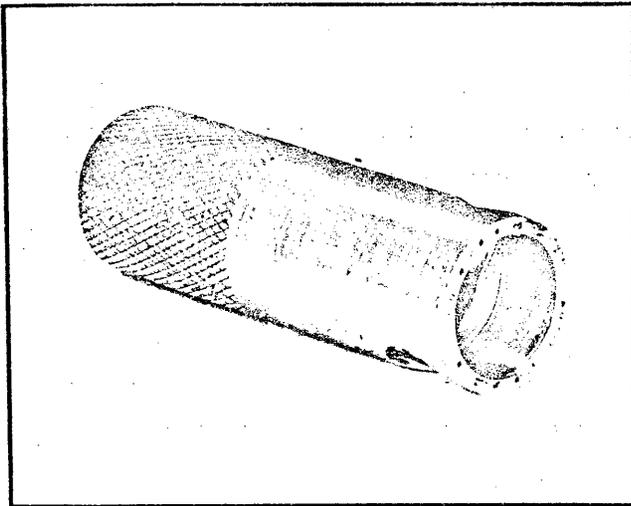

Fig. 4-6. Spanner wrench required in the removal of the oscillator tube. Tektronix Part No. 003-0397-00.
4. Using special tool Tektronix Part No. 003-0397-00 (see Fig. 4-6) unscrew the spanner nut, then gently lift out the tube while feeding the heater wires into the opening at the front end of the oscillator.